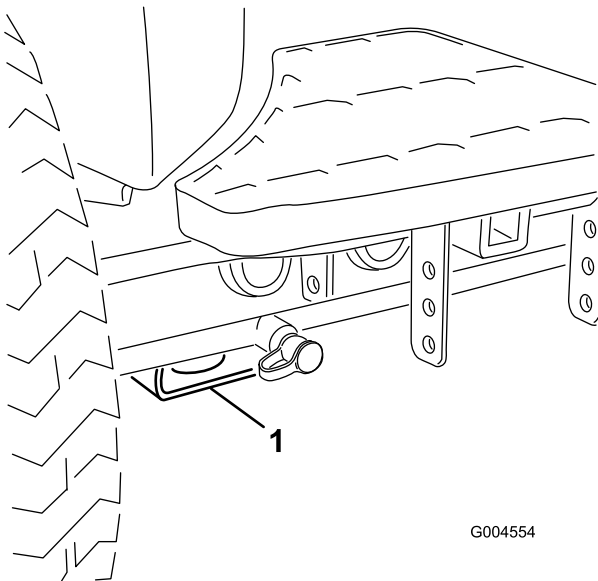

Figure 46
- Front—rectangular pad, under the axle tube, inside each front tire (Figure 46).